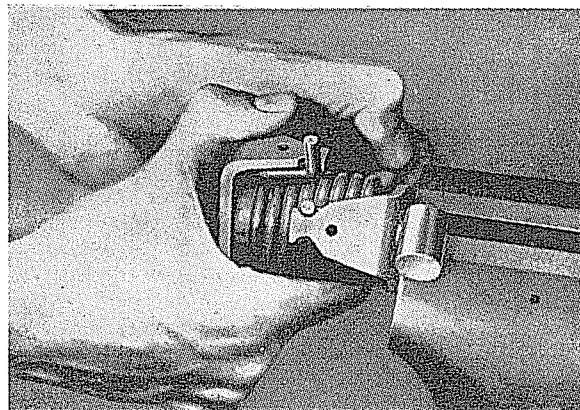

Fig. 60
- (13) When assembling, carefully locate parts as shown in Figure 60 then turn clockwise until end of spring is passed shift fork actuating lever. (This will pre-load springs) and push.